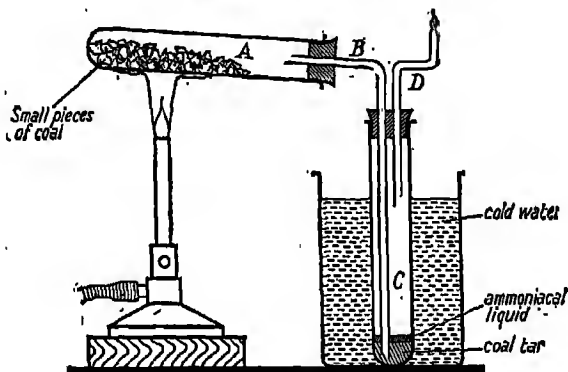

FIG. 100. The dry distillation of coal.
**Expt. 143.** Arrange an apparatus as in Fig. 100. *A* is a hard glass boiling tube containing small pieces of coal (not powdered). The tube *A* slopes slightly downwards towards the mouth. It is fitted with a delivery tube *B* which leads almost to the bottom of another boiling